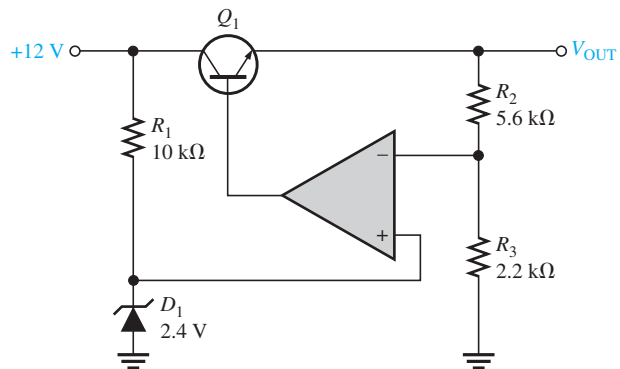

FIGURE 11-41
7. Determine the output voltage for the series regulator in Figure 11-41.
8. If R_3 in Figure 11-41 is increased to 4.7 k Ω , what happens to the output voltage?
9. If the zener voltage is 2.7 V instead of 2.4 V in Figure 11-41, what is the output voltage?